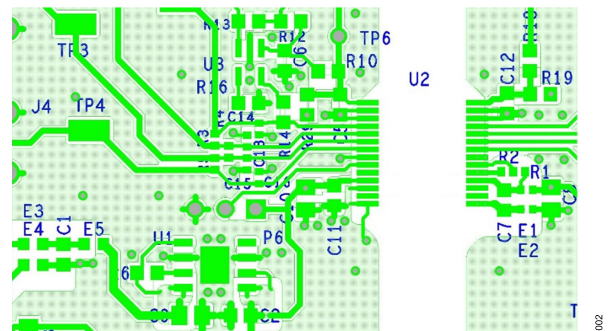

Figure 3. Layout Notes for EVAL-ADUM6421ARNZ/EVAL-ADUM6421AURNZ
- ▶ Ensure that V_{ISO} (Pin 18) is connected through the E2 ferrite bead before connecting to the V_{ISO} load, as shown in Figure 3.
- ▶ Ensure that there is a keep out area in the PCB layout around E1 and E2, as shown in Figure 3.